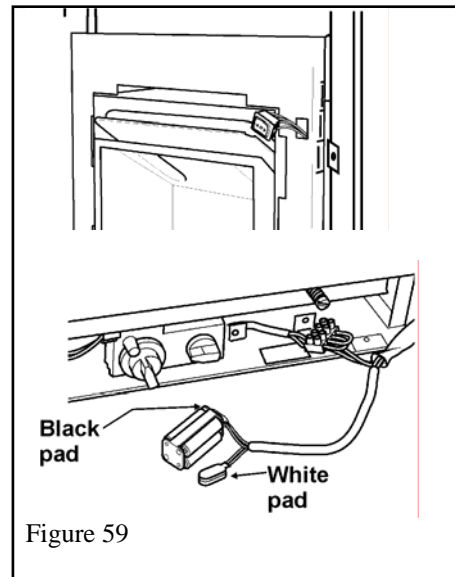

Figure 59
- Connect the battery box to the **black** connection pad. See figure 59.
- Snap fit the switch into the surround opening. The wires should hang down from the connectors at back of the switch so that pressing the upper arrow on the switch turns the fire up. See figure 59.